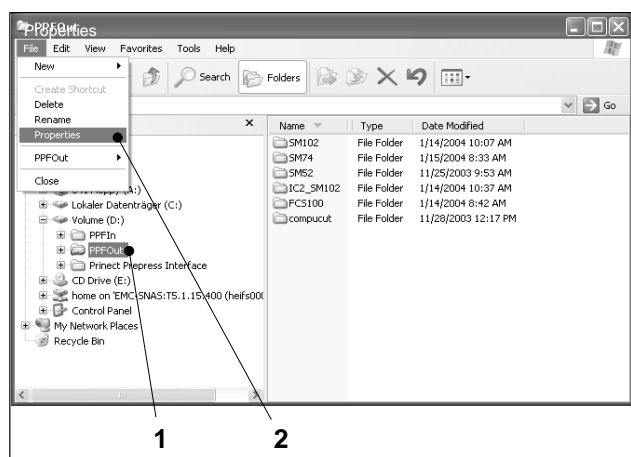

Fig. 9 Windows XP Explorer
Example: You want to share the directory "PPFOut" (Fig. 9/1).
3. Select the submenu *Properties* (Fig. 9/2) from the *File* menu.